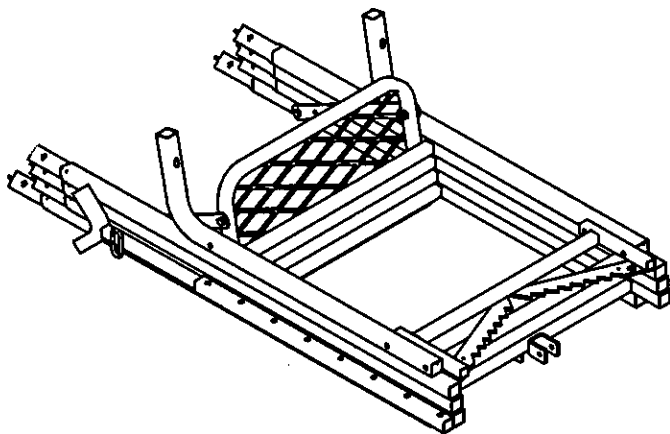

Figure 1A: Stacked View
1. Stack metal components of the ladder **AS SHOWN IN FIGURE 1A AND 1B.**